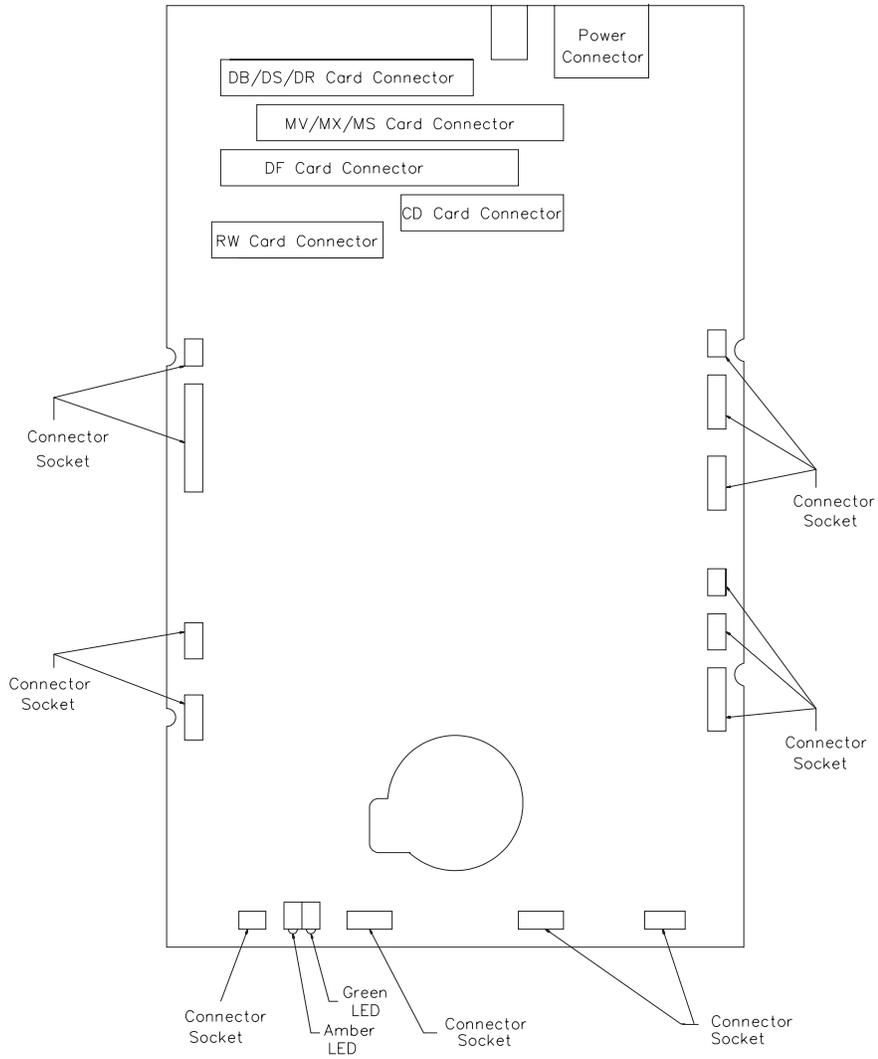

Figure 9-2
2. Pull the SV card away from the main housing so that you can access the connectors. There are 14 connectors and cables on the SV card attached to various components on the deck. Figure 9-2 shows the location of these connectors on the SV card.